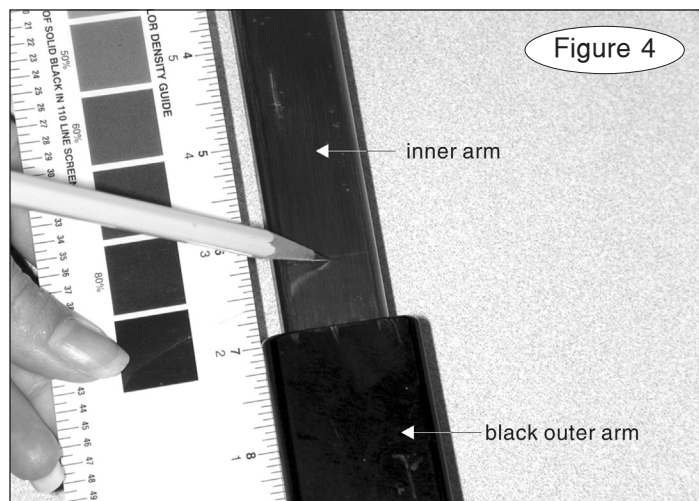

Figure 4
Turn the tow bar arm over and move the inner arm forward or backward slightly, if necessary, until the button stem drops through the hole in the outer arm. Then, draw a straight line with a pencil across the bottom of the inner arm (Figure 4), 3/4" from the edge of the outer arm.
3. With the arms fully extended and locked, draw a straight line with a pencil across the top of the inner arm (Figure 4), 3/4" from the edge of the black outer arm (Figure 4).